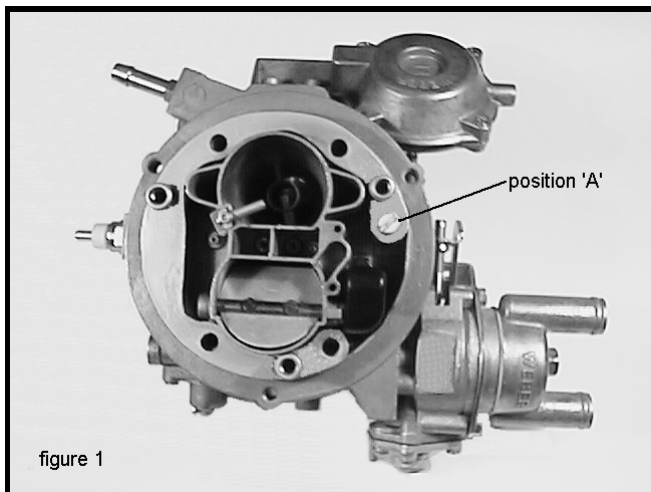

figure 1
- Using figure 1 as a guide, remove the screw from position [A].
- Place the new air filter adaptor plate (2) onto the top of the carburettor and secure in place using the new screw (3).
- Inspect the original carburettor insulator block face gaskets and where necessary replace with the two new gaskets (4) provided.